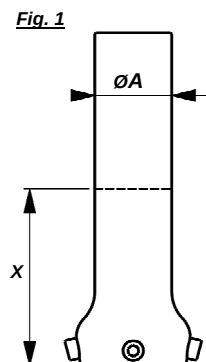

Fig. 2
C) CUTTING TO THE APPROPRIATE LENGTH (fig. 1 and fig. 2)